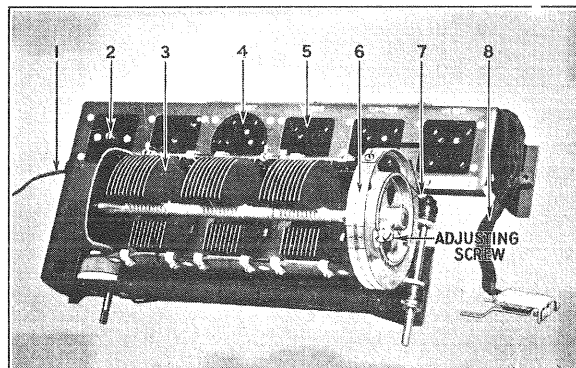

Fig. 2—Top View of Radiola
- Adjusting compensating condenser, as shown in Fig. 4, by means of the neutralizing screw driver shown in Fig. 2 of Supplement to Service Bulletin No. 5-A. The following procedure should be used: